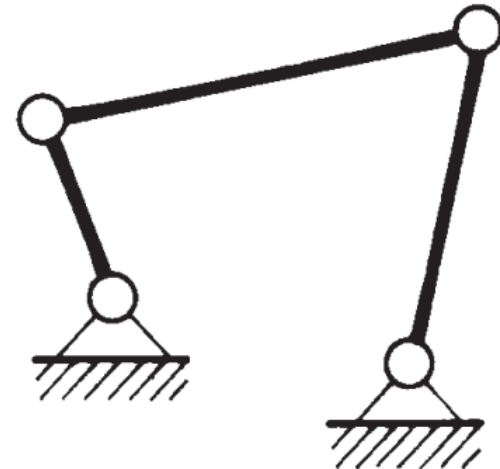

Fig. 3. Family 3 – 3 DOF in total [Miller 1989]
**Family 3** – all links have taken away the same 3 DOF. For the mechanism in Fig. 3, these are rotation about the vertical and horizontal axes and translation about an axis perpendicular to the plane of the figure. This family includes mainly plane mechanisms (also spherical spatial mechanisms).